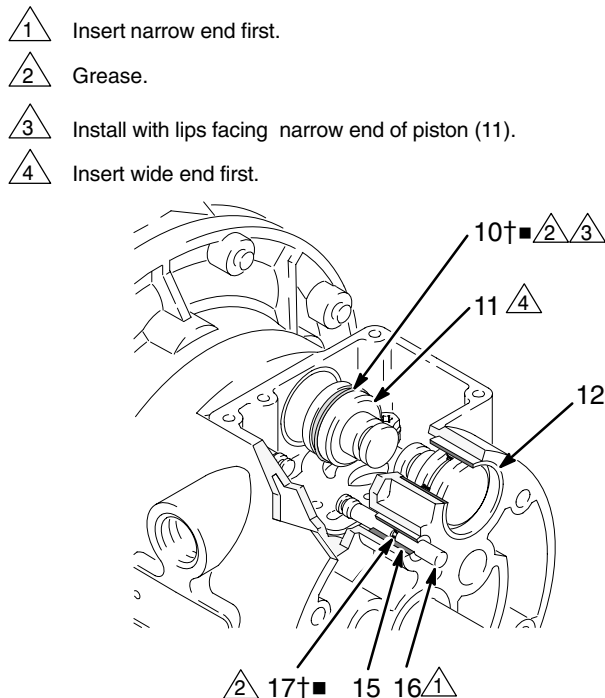

Fig. 9
4. Pull the two actuator pistons (11) out of the bearings (12). Remove the u-cup packings (10) from the pistons. Pull the pilot pins (16) out of the bearings (15). Remove the o-rings (17) from the pilot pins. See Fig. 9.
6. Inspect the bearings (12, 15) in place. See Fig. 9. The bearings are tapered and, if damaged, must be removed from the outside. This requires disassembly of the fluid section. See page 22.
4. Install an o-ring (17†■) on each pilot pin (16). Grease the pins and o-rings. Insert the pins into the bearings (15), **narrow** end first. See Fig. 9.
5. Install a u-cup packing (10†■) on each actuator piston (11), so the lips of the packings face the **narrow** end of the pistons. See Fig. 9.
6. Lubricate the u-cup packings (10†■) and actuator pistons (11). Insert the actuator pistons in the bearings (12), **wide** end first. Leave the narrow end of the pistons exposed. See Fig. 9.